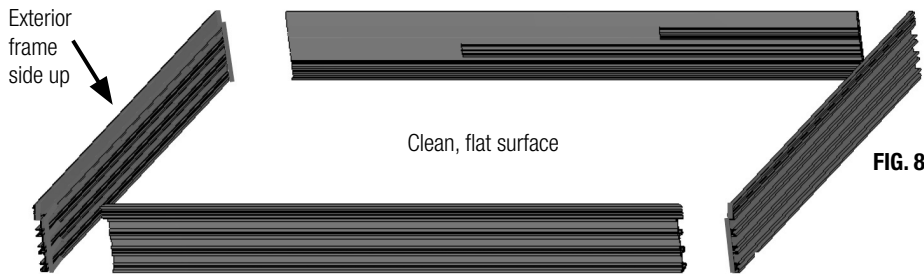

FIG. 8
- C) Attach the side jamb(s) to the head using the screws supplied in the "Frame Assembly" screw package. Make sure the screws pass through the side jambs and into the screw bosses in the head **(on the pocket side of a pocketing unit, the base side jamb is not supplied with the exterior nosing; this nosing called the post interlock will be applied in the steps that follow.)** (Fig. 8)
- D) Attach the side jamb(s) to the sill using the screws supplied in the “Frame Assembly” screw package. Make sure the screws pass through the side jambs and into the screw bosses in the sill nosing. (Fig. 8)